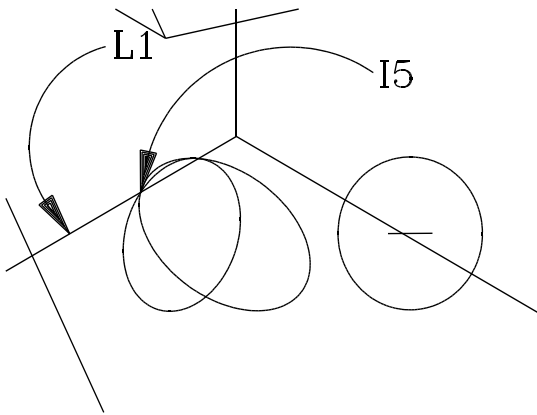

Figure 17
47. Click on L1 (the line), then click on I5 (the intersection of the line and the ellipse). (See Figure 17.)